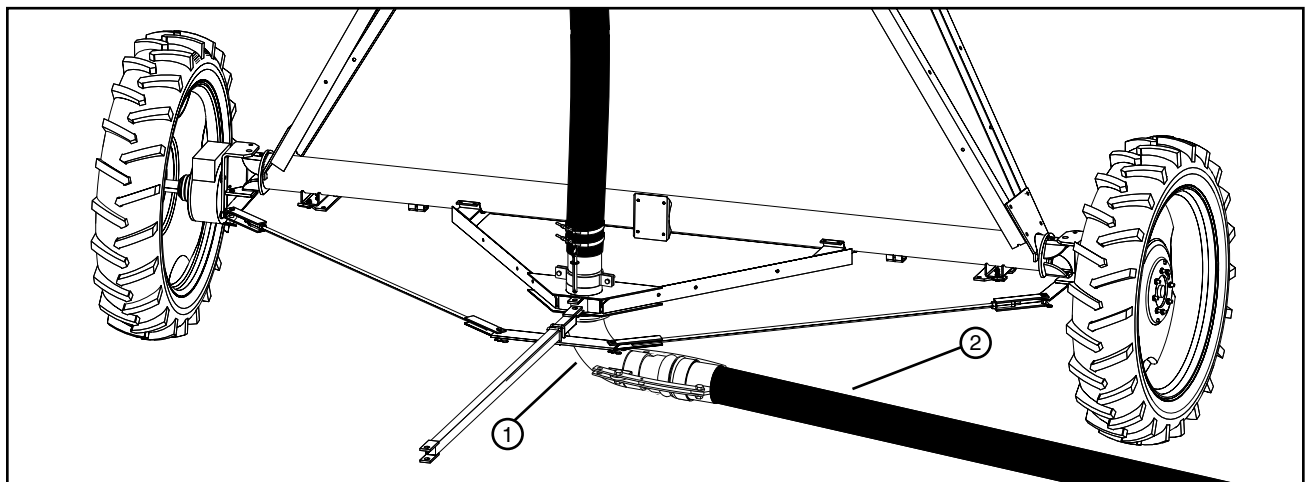

Figure 61-3 1. Hose 2. Elbow Inlet (Tee Inlet Not Shown)
- Disconnect the hose from the elbow or tee inlet. See figure 61-3.